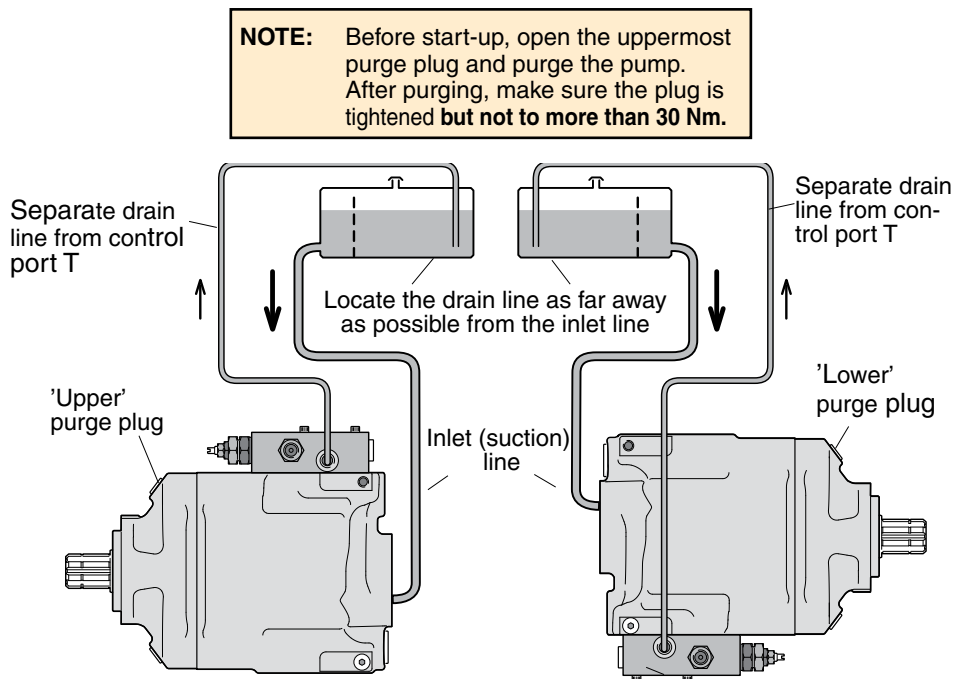

Fig. 6. Purging the VP1-095/-110/-130 (right hand pumps shown)
4. The pump should be installed below the lowest oil level in the reservoir (fig. 6, pg. 5); if this is not possible, please contact Parker Hannifin for further information.
5. A separate drain line must be installed between the control drain port T and the reservoir (refer to fig. 6, pg. 5); connect the drain line directly to the oil cooler (if the hydraulic system is so equipped).
- The pump must be filled with fluid and then purged before start-up (fig. 6).
- As previously pointed out, a separate drain line is required between control port T and the reservoir (fig. 6).